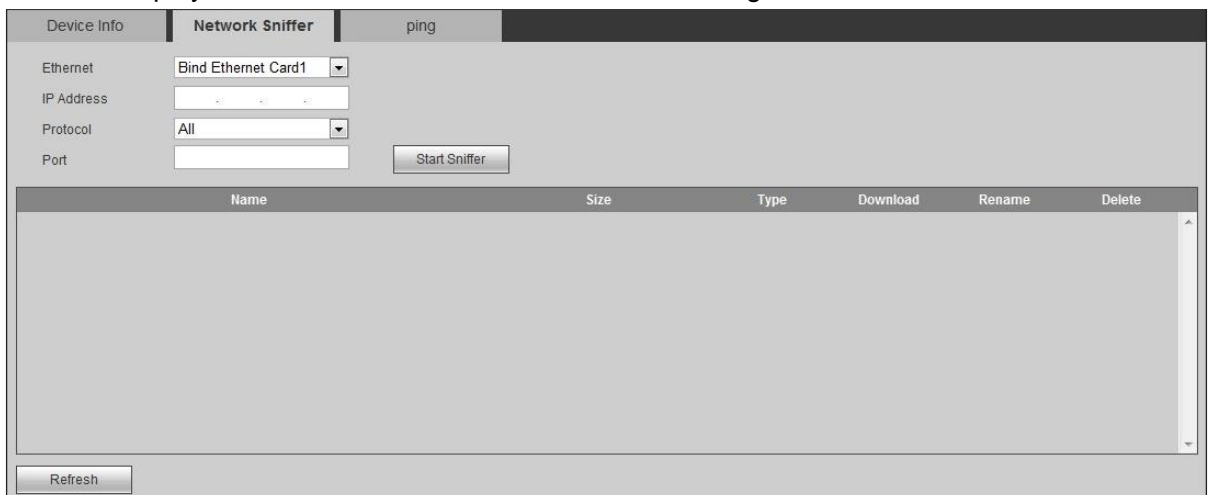

Figure 4-115
Step 1 Select “Info > Device Info > Device Info” and click “Network Sniffer” tab. The system displays “Network Sniffer” interface, as shown in Figure 4-115.